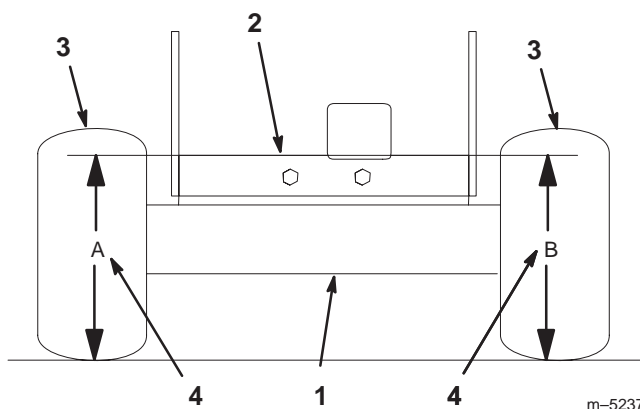

Figure 47
- Measure engine deck height at location **A** (Fig. 47).
- Measure engine deck height at location **B** (Fig. 47).